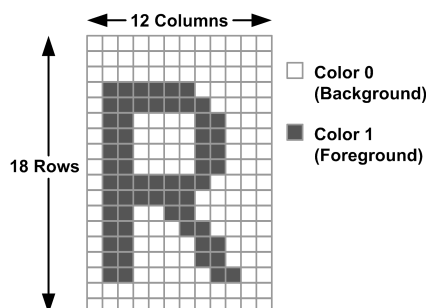

Figure 15. Two-Color Character
1. Two-color: There are a total of 384 two-color characters in 6 banks (banks 0, 1, 2, 4, 5 and 6). Each pixel of these characters is defined by a single bit value. If the bit value is 0, then the color is defined as “Color 0” or the “background” color. If the bit value is 1, then the color is defined as “Color 1”, or the “foreground” color. An example of a character is shown in Figure 15. The grid lines are shown for clarity to delineate individual pixels and are not part of the actual displayed character.